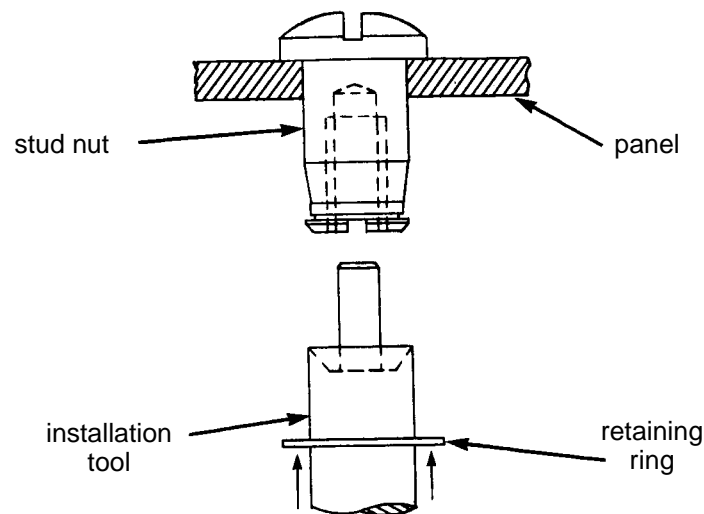

Figure 5 - B0209020/CA2035 Wire Form Retaining Ring Installation
- Step 3. Slide the retaining ring onto the stud nut (see Figure 5).